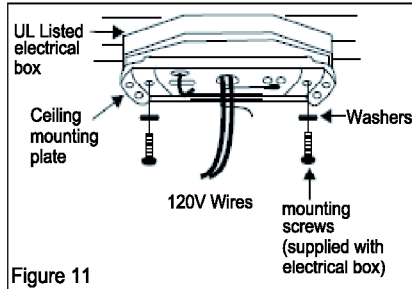

Figure 11
1. Pass the 120-volt supply wires through the center hole in the ceiling mounting plate as shown in Fig. 11.
2. Install the ceiling mounting plate on the electrical box by using the mounting screws provided with the electrical box. When using the close-to-ceiling mounting, it is important that the mounting plate be level. If necessary, use leveling washers (not supplied) between the mounting plate and electrical box. Note that the flat side of the mounting plate is toward the electrical box. (Fig. 11)